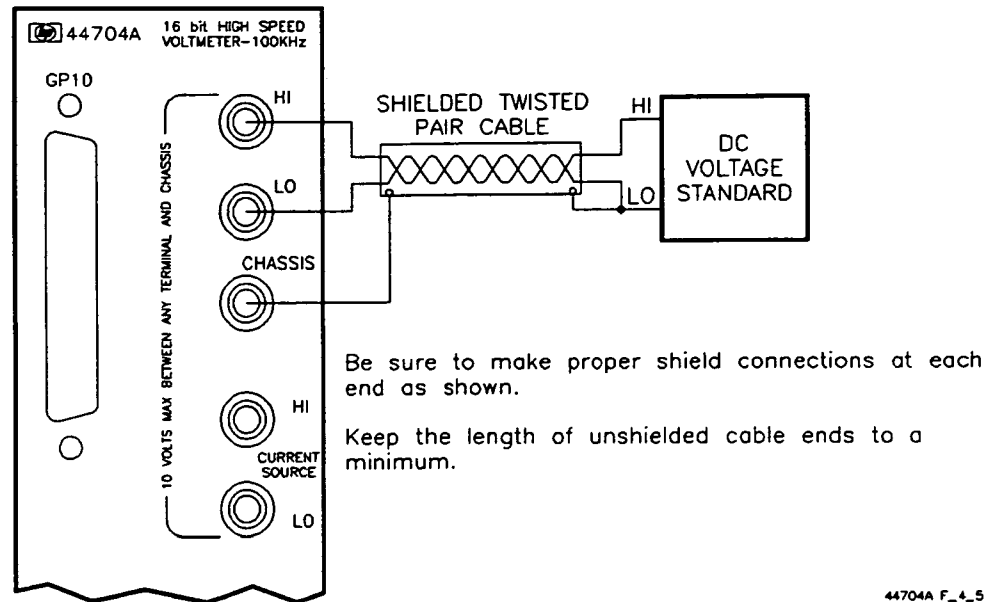

Figure 5-1. DC Voltage Gain Adjustment Setup
5. Connect the DC Standard as shown in Figure 5-1.